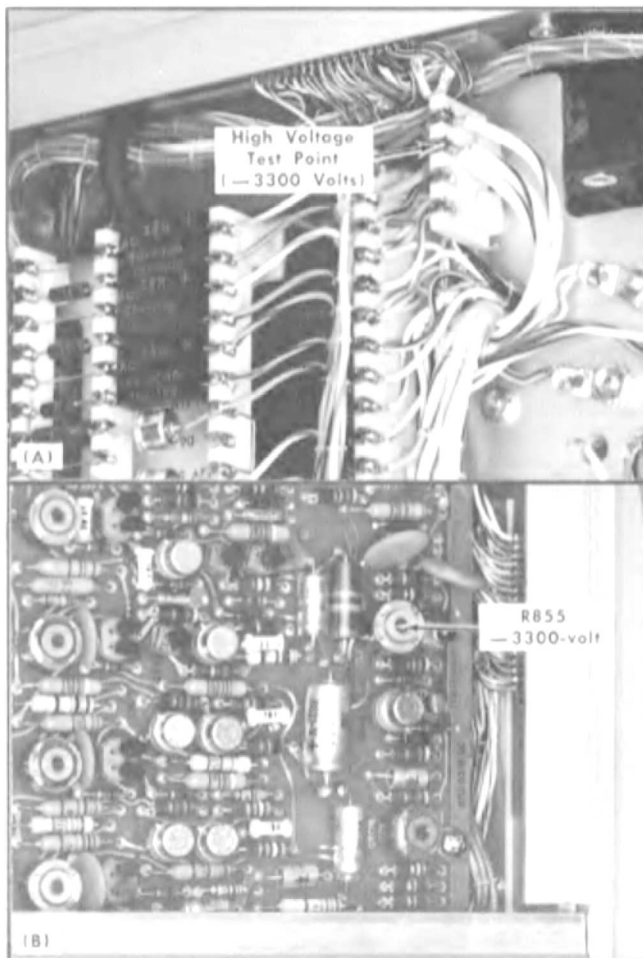

Fig. 6-14. Location of —3300 volt test point and location of —3300 volt adjustment.
- Connect the DC voltmeter from the -3300 -volt test point (see Fig. 6-14) to chassis ground.